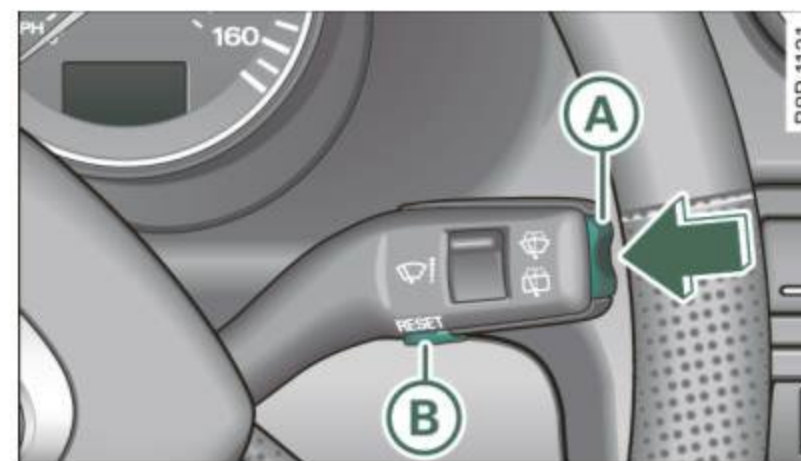

Fig. 22 Wiper lever: Trip computer controls
- Press the function selector switch in the wiper lever **(A)** ⇒ *page 34*, fig. 22 up or down to change the set value. Values run up or down in steps of 6.2 mph (10 km/h).
- Press the reset button in the wiper lever **(B)** ⇒ *page 34*, fig. 22 until the crossed out speed warning symbol for warning threshold 2 appears in the display.